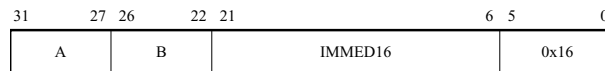

Figure 14: Format for the **blt** instruction.
- Derive the machine code representation of the instruction `blt r7, r8, LOOP`. In the *Nios II Processor Reference Handbook*, which is available on Altera's website, we can find that the **blt** instruction has the format shown in Figure 14. Use registers *r7* and *r8* as registers *A* and *B*, respectively, and determine the branch offset needed to branch to the instruction at location LOOP.